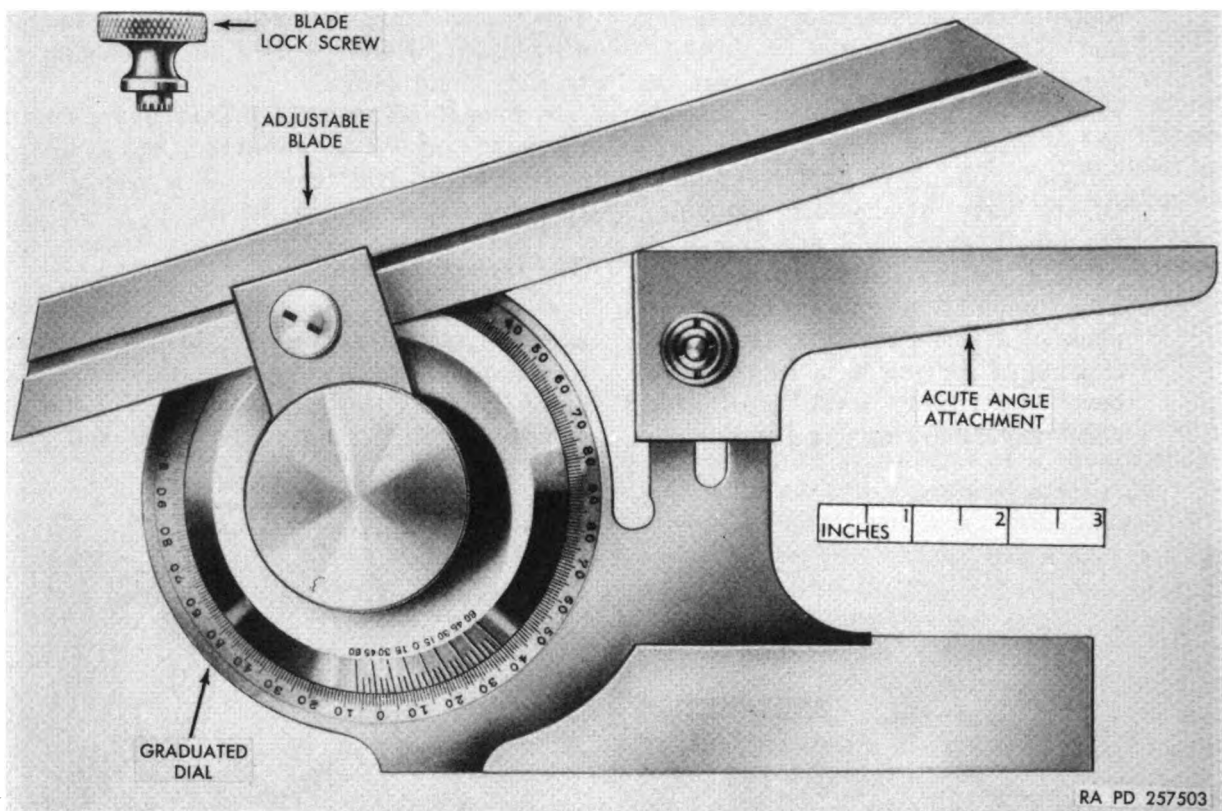

Figure 33. Bevel protractor.
e. Bevel Protractor. A bevel protractor (fig. 33) consists of an adjustable blade with a graduated dial. The blade is usually 12 inches long and $\frac{1}{16}$ inch thick. The dial is graduated in degrees through a complete circle of 360°.